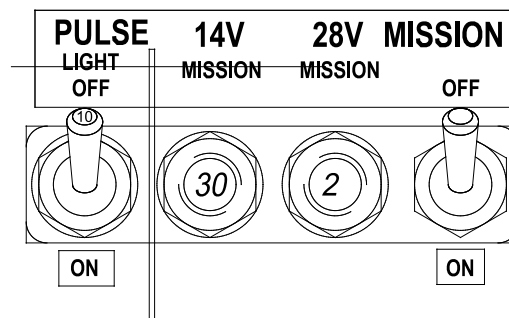

Figure 5 – Partial view of electrical overhead panel.
The placarding of the mission switch and circuit breakers in Figure 5 may vary. For the purposes of this test they will be referred to as per the placarding in Figure 5.
8. With the engine running and when advised as safe to do so by the pilot or taxi endorsed operator, place the 28V switch “MISSION” to the ON position (see Figure 5 below).